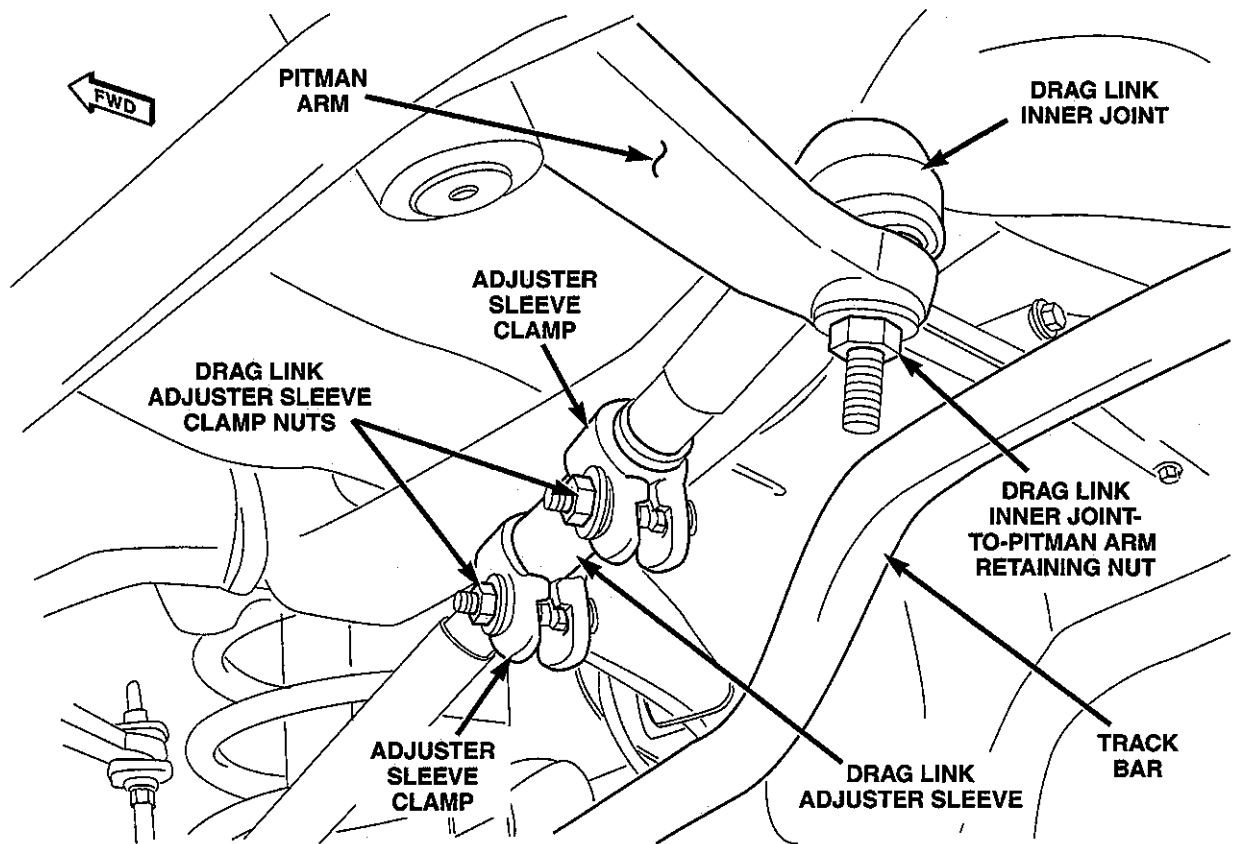

**Figure 2 – Bracket Mounting Nuts**
- a. Remove and save the steering damper-to-damper bracket mounting nut (Figure 2).
- c. Remove and discard the four steering bracket nuts, two u-bolts and the bracket (Figure 2).